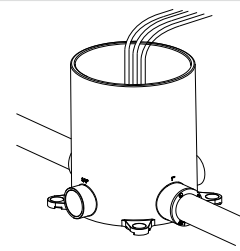

Fig. 5
4. Pull the wiring into the floor box. (Fig.5)